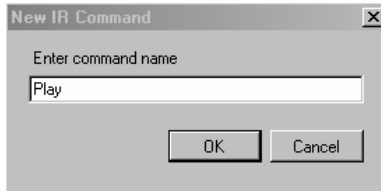

Figure 18: New IR Command Window
4. Write the new IR command name (for example, Play) as shown in Figure 18.